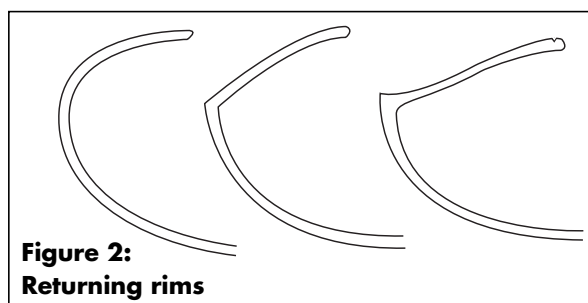

Figure 2:
On the spout end of the blank find the centers for the two spouts equidistant from the center of the blank. Using a compass, draw circles the size of the spouts (Figure 2). The size depends on how large a vessel you decide to make. For example, for a vessel 3 inches wide by 6 inches
- In the returning rim (Figure 2) the wall rises upward from the foot and then turns in toward the center of the piece before terminating.